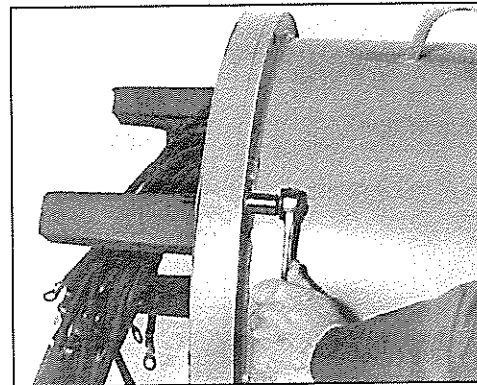

Figure 6-30
1. Remove front bracket mounting screws (figure 6-30).